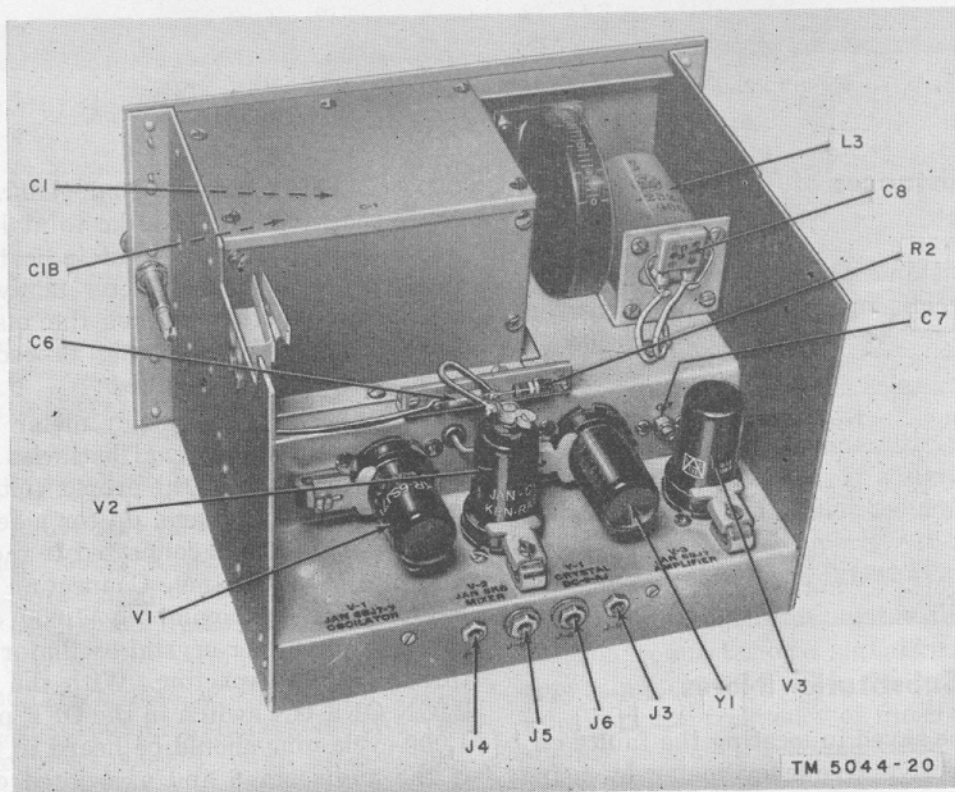

Figure 21. Frequency Meter TS-174B/U, rear view of chassis.
c. ADJUSTING CRYSTAL OSCILLATOR TO 1,000 KC. The accuracy of the frequency meter depends to a large extent on the accuracy of the crystal oscillator. To adjust the frequency of this oscillator, set the selector switch in the CRYSTAL position. Loosely couple the antenna of the receiver to the antenna of the frequency meter and the output of the 100-kc multivibrator. Tune the receiver to 1 mc and listen for the beat note in the receiver speaker. It is unlikely that the crystal oscillator will be off frequency enough so that the beat will not be heard. Adjust tuning capacitor C7 (fig. 21) with a small screw driver until exact zero beat is obtained. Holding the screw driver on the screw, tighten the
- (5) Follow the procedure below if the frequency range is not covered in the dial range.
- (a) Occasionally, the replacement of a main tuning capacitor assembly may result in the 20-mc and 40-mc point being located below 0000.0 or above 5000.0 on the dial. The usual cause of this is an incorrect placement of the dial on the capacitor shaft. To check this, set the main tuning dial to 0000.0. Remove the five button-head screws which hold the top plate of the capacitor assembly cover in place. Note the setting of the capacitor plates. At 0000.0 on the dial, the capacitor should be set for maximum capacity or the plates should be meshed completely. By carefully placing a finger on the exposed edges of the plates and rocking the main tuning dial back and forth, the exact setting can be obtained. If this position does not correspond to 0000.0 on the dial, the dial will have to be removed and relocated to read 0000.0. To do this, remove the three flathead machine screws in the knob and remove the knob from the dial. Using the Bristo wrench which is provided, loosen the two setscrews on the hub of the tuning dial and rotate the dial to read 0000.0. Tighten the setscrews and replace the tuning knob. Replace the top cover plate over the capacitor assembly. Recheck the 20-mc and 40-mc points as outlined in (4) above, and be sure that they are now in the proper range on the main tuning dial.
- (b) If the procedure outlined in (5) (a) above does not correct the condition, it will be necessary to adjust trimmer capacitor C1B. A small hole located just above the Dzus fastener on the upper right-hand side of the chassis (fig. 21) gives access to the slotted shaft of the trimmer capacitor. Locate the check point at the end of the dial which does not fall within the dial divisions. Adjust the trimmer capacitor to move the frequency up or down, as the case may be, so that it will be located within the dial divisions. The exact point of setting depends on circuit conditions and cannot be predicted accurately. Be careful not to close the plates together during the adjustment; this will short out the tuning capacitor.
- (6) Return the main tuning dial to the 20-mc check point as determined above. Recouple the 100-kc harmonic amplifier and set the selector switch to CHECK. Note the beat notes produced by the mixing of these frequencies. The beat notes are produced by the harmonic amplifier signal, the internal crystal oscillator, and the vfo. If switching the 100-kc harmonic amplifier in and out causes a considerable change in beat note, recheck the crystal oscillator frequency as described in *c* above. When the best possible zero beat is obtained, note carefully the dial setting. This will be the dial setting for 20 mc as well as the 20-mc crystal check point.
- (7) The frequency determined in (6) above was 20.00 mc. The next point to be determined will be 20.01 mc, a point 10 kc above 20.00 mc. With the 10-kc harmonic amplifier coupled, and the 100-kc harmonic amplifier *decoupled*, the beat produced by the 10-kc and the internal vfo output can be tracked audibly from 20.00 mc to 20.01 mc. The beat note will increase from zero beat to 10 kc and back down to zero beat again. The total excursion of the dial should be between 2.0 and 2.4 dial